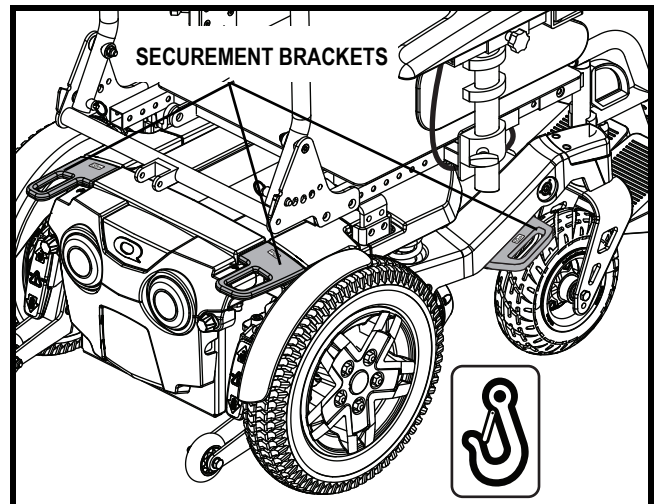

Figure 8. Transit System Securement Brackets
- Attach the four tie-down straps only to designated, labeled transit securement points indicated by anchor symbols on the power chair. See figures 8 and 9. Tighten the straps to sufficiently remove all slack.